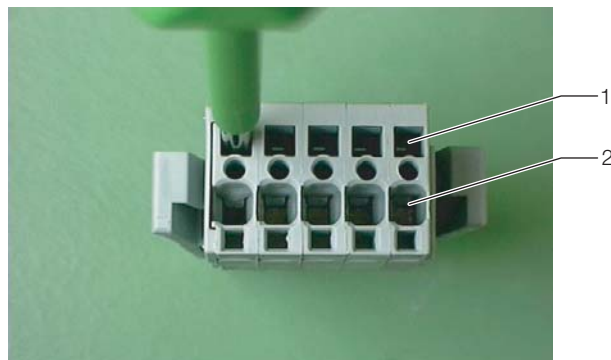

Fig. 34: Connection plug - rear
- Insert a screwdriver into an activation opening (Fig. 34, item 1) and open the screw terminal clamping point of the conductor entry (Fig. 34, item 2).